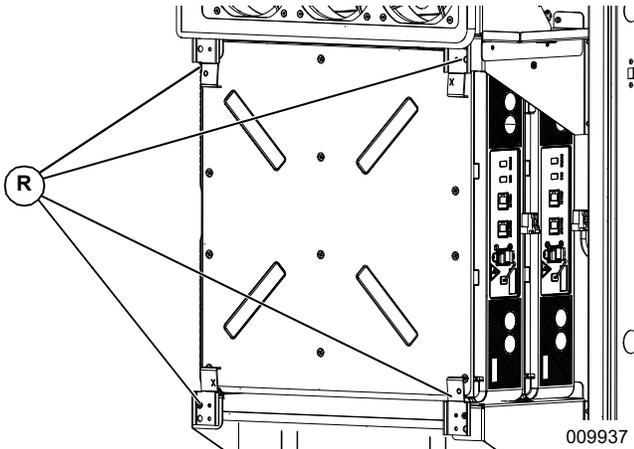

Figure 4-21. Retention Clips (1 of 3)
See **Figure 4-21**. All front battery modules must be secured with retention clips (R).